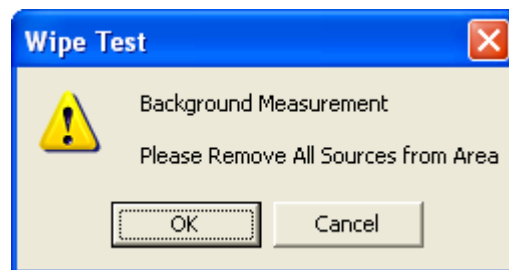

Figure 8-16
5. Click the **Background** button or press *Alt+B* to measure background counts. Figure 8-16 will appear.